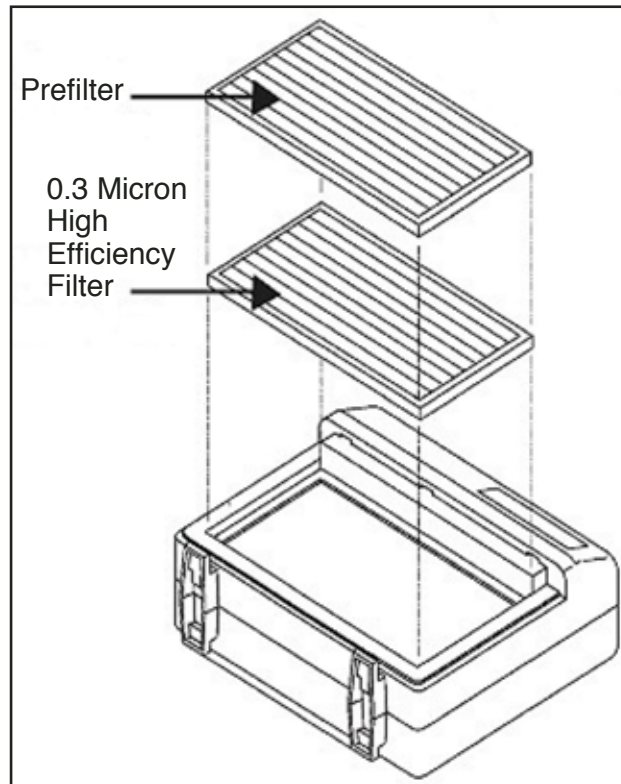

Figure 9
3. Metal clips (2) are located on each lower side, between the front grill and feet. Using your finger or a flat head screwdriver on ONE SIDE AT A TIME, pull each metal clip, away from the grill. While holding clip, pull on the adjacent lower corner of the grill to disengage that side. Repeat disengagement on opposite side. Ensure that both lower sides remain un-clipped.
6. Insert a new, white 0.3 Micron High Efficiency Filter (marked “First Stage”) into the front of the unit. Ensure that the WHITE SURFACE FACES FRONT OF UNIT (figure 9).
7. Align a new, white Prefilter (marked “Second Stage”) on top of the first filter, or place it inside the inner frame on the loose grill. Ensure that this filter’s WHITE SURFACE ALSO FACES FORWARD (figure 9).